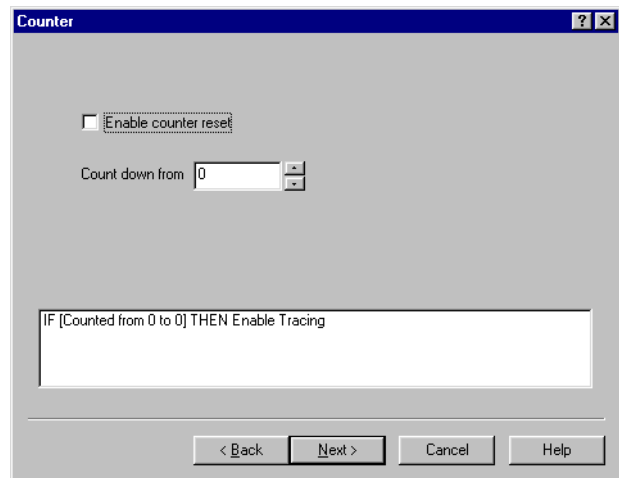

Figure 5-18 Counter dialog box
2. Select **Counter** from the Resource drop-down list. Click **Next**. The **Counter** dialog box is displayed, as shown in Figure 5-18 on page 5-34.